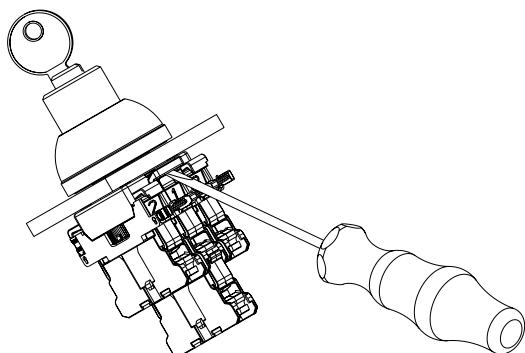

Fig. 4
1. Disassembly of the contact carrier from the mounting flange (see Fig. 4): Insert the screwdriver in the latch of the mounting flange. Slightly move the screwdriver in the direction of the contact element to press the latch outwards. In this way, the contact carrier is released from the mounting flange. Then repeat this process on the opposite side.